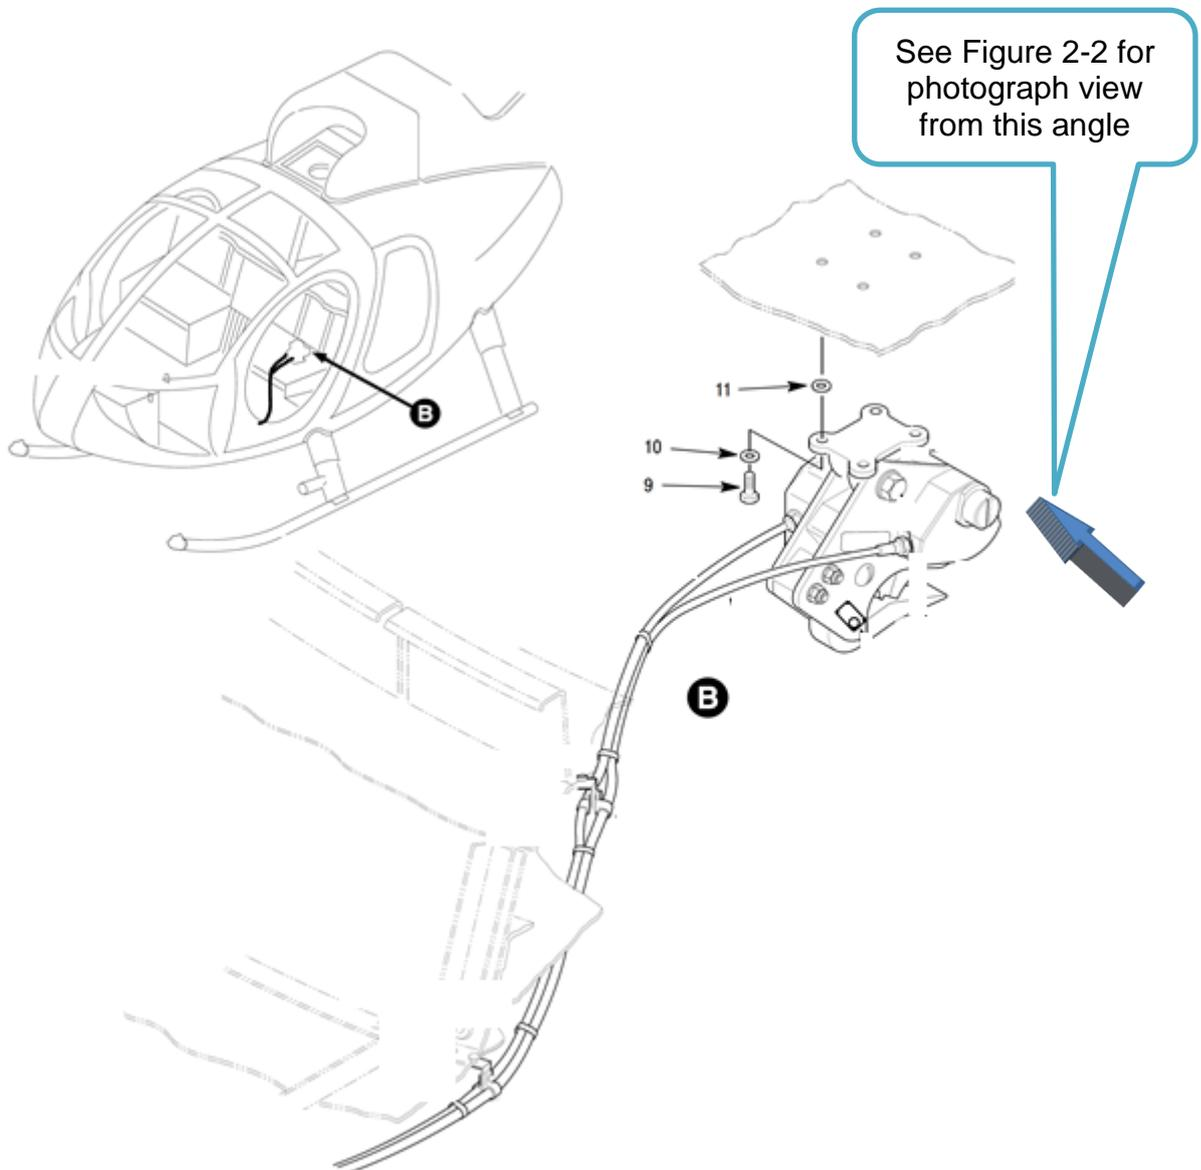

Figure 2-1: Typical Cargo Hook Installation
The cargo hook is fitted under the belly of the fuselage at FS 99.3, see Figure 2-1.
The hook provided by MDHI is attached using bolts NAS1304-6 (Qty 4, item 9 in Figure 2-1) and washer AN960-416L (Qty 4, item 10 in Figure 2-1).